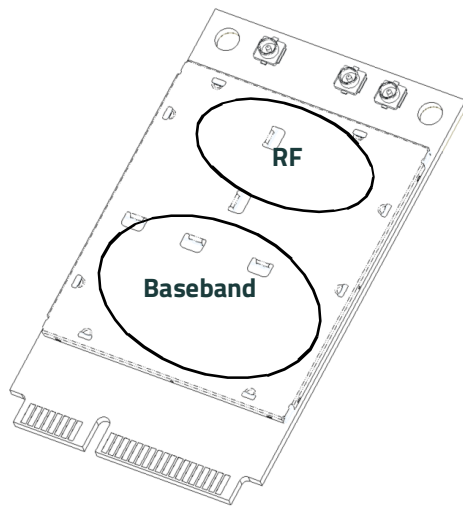

Figure 6-1: Shield locations requiring heat dissipation (Top view)
Specific areas requiring heat dissipation are shown in Figure 6-1:
- Monitor temperature on the underside of the module. Attach thermocouples to the areas indicated in Figure 6-1 (Baseband, RF).